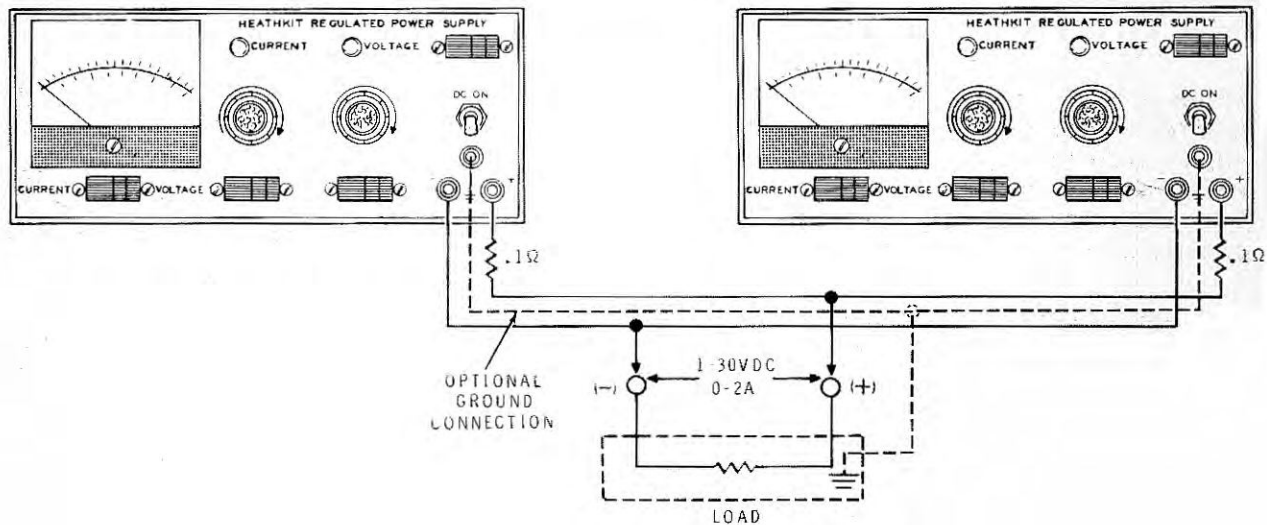

Figure 12
For high current loads, two or more Power Supplies can be connected in parallel, as shown in Figure 12. Use the following steps for parallel connections.
5. Connect the load as shown in Figure 12.